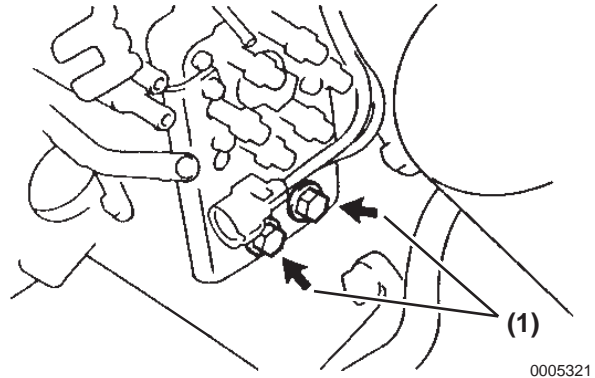

Figure 6-58
6. Install the fuel injection pump stay using two bolts (**Figure 6-58, (1)**) and torque to 700 kgf-cm, 68.65 N-m (50.6 lb-ft). **NOTICE:** Check that the pump stay is lifted to contact with the fuel injection pump before tightening to the specified torque. If there is a gap, loosen the bolt securing the pump stay to the cylinder block and lift the pump stay until it comes into contact with the fuel injection pump.